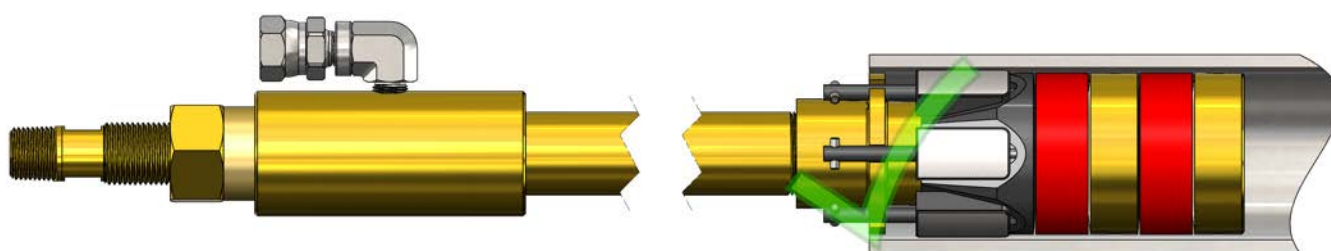
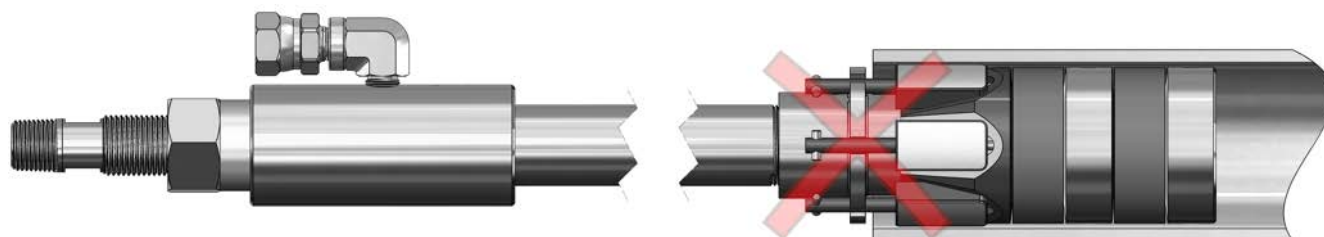

Figure 6: GripSafe ST DBB Minimum Insertion Depth in a Sectioned Pipe
Figure 7: GripSafe ST DBB incorrect Insertion Depth in a Sectioned Pipe
6.4 For pipe installation, push the GripSafe ST DBB plug further into the pipe to the desired depth. The top of the **DBB Spring Plate's(7)** slotted section must not be protruding past the face of the pipe it is installed in. See Figure 6 for properly installed plug and Figure 7 for improperly installed plug. The top of the **DBB Spring Plate's(3)** slotted section can be inserted further into the pipe if necessary. For a welding neck installation, see Section 7.